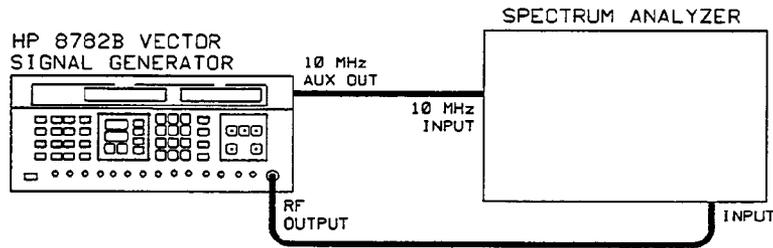

Figure 5-5. Harmonics Test Setup
1. Connect the equipment as shown in Figure 5-5. Set the test equipment settings as shown in the table above.